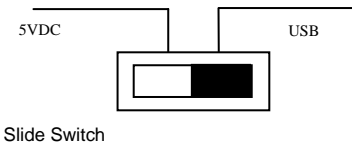

Fig. 6-2
**Note:** Please ensure that the power select button is on the right side of slide switch (See Fig. 6-2).
Fig. 6-2 represents that TP-Fiber Converter with Self Powering Cable (USB) is enabled.